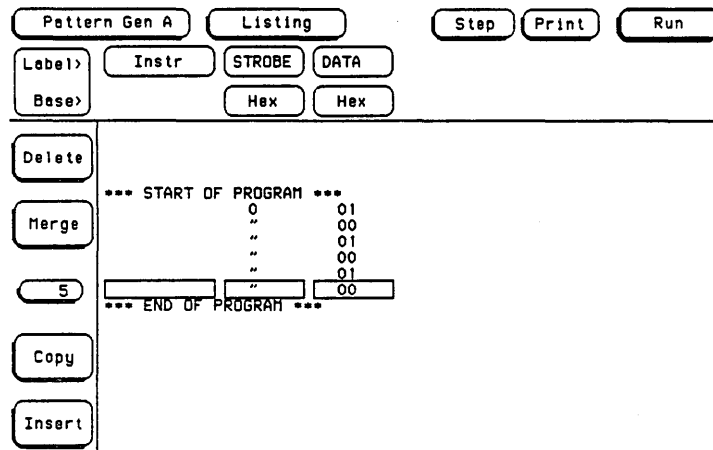

Figure 3-12. Example Program
6. Repeat steps 1 through 5 until there is a short program starting with a one (1) and ending with a zero (0). See figure 3-12.